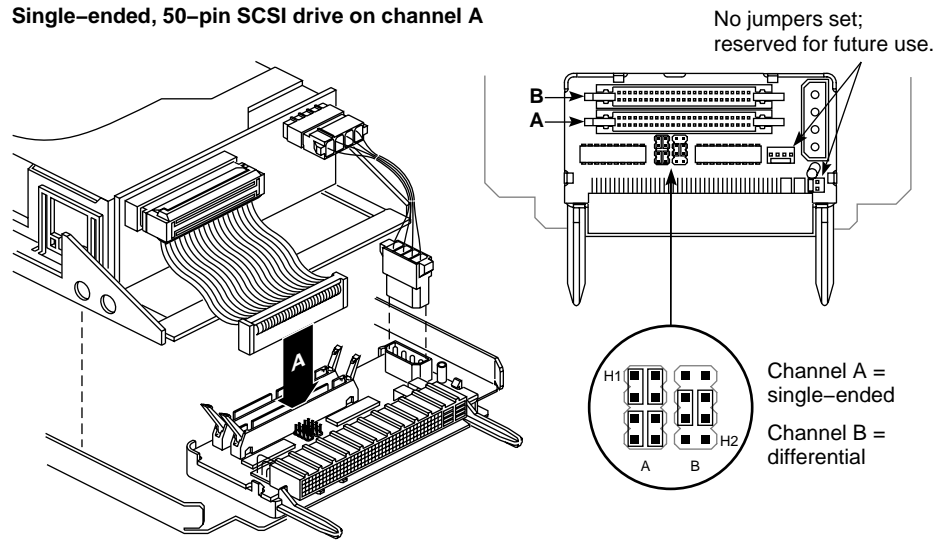

Figure 1-3 Setting the Drive Sled for Single-Ended Operation
- Be sure the sled-to-drive connector cable is plugged into the correct SCSI channel. Single-ended is A; differential is B. Plug the cable to channel A (see Figure 1-3).